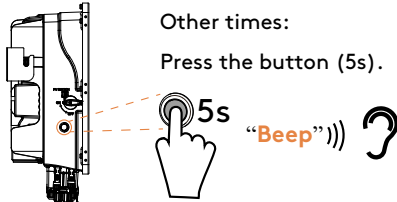

Figure 97.
5. Turn on the inverter. For the first startup, refer to the Startup Guide to complete Quick Setup in the App and tap the Power-on icon to turn on the inverter. For any non-first-time startup, press and hold the ON/OFF button on the side of the inverter for five seconds to turn it on. Refer to **Figure 97 on p71**.